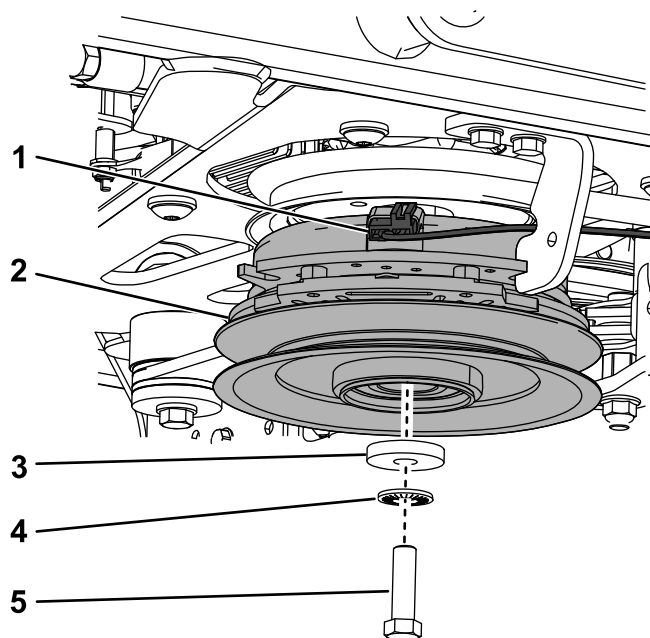

**Figure 86**
**Note:** Mount the front hanger brackets on the outside of the front lift arms for 52-inch decks (Figure 85). Mount the front hanger brackets on the inside of the front lift arms for 60-inch decks (Figure 86).